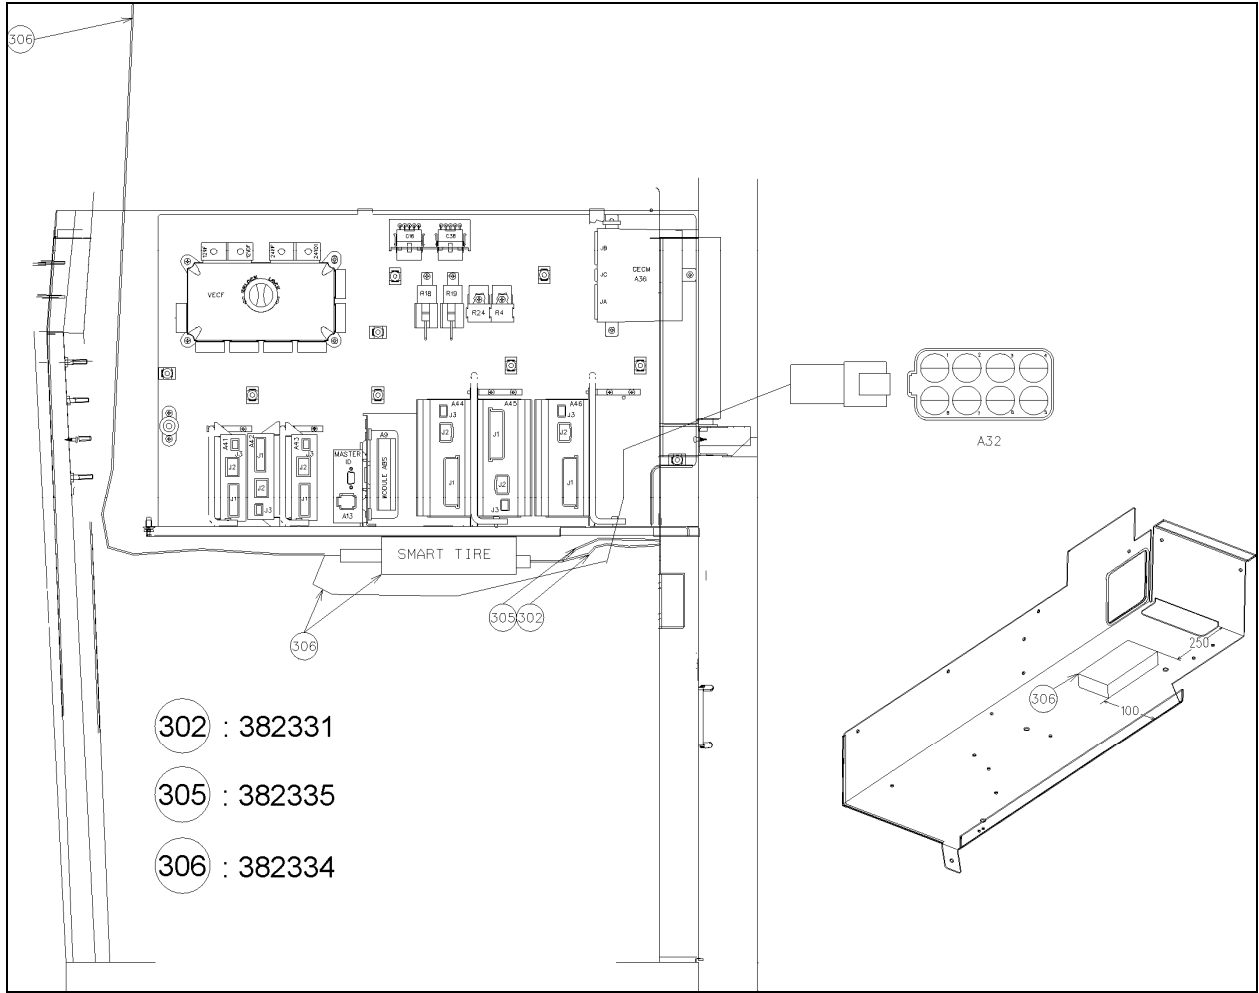

FIGURE 4
6. Position then fix receiver (382334) inside the front service compartment using Velcro or double-face self adhesive tape as indicated in figure 4.
8. Route power cable between the receiver and VECF connector A32 as indicated in figure 4.